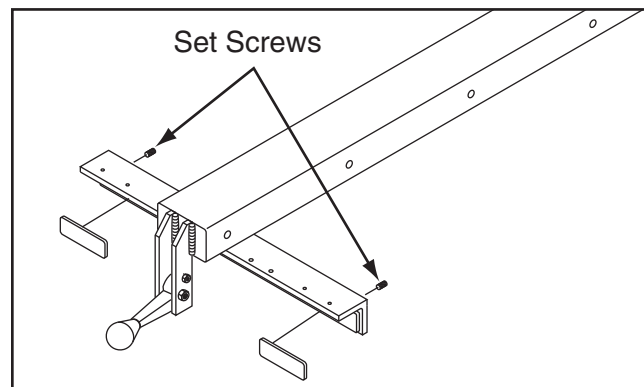

Figure 124. Location of set screws used to adjust fence parallelism and clamping pressure.
- Remove fence and equally adjust set screws shown in **Figure 124** as necessary, then re-install fence, lock it in place, and check clamping pressure. Re-adjust as necessary until fence will not move as pressure is applied against it.
- Use trial-and-error to adjust set screws (see **Figure 124** on **Page 73**) so fence is parallel with blade and clamping pressure is sufficient.